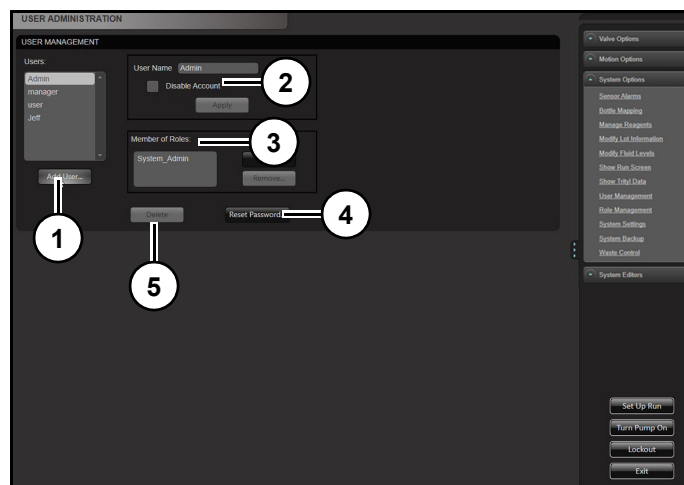

Figure 55
Show Run Screen (1) (Figure 55) allows user to return to “run screen” after limited access for diagnostics and testing when instrument is paused.
Refer to (Figure 55).